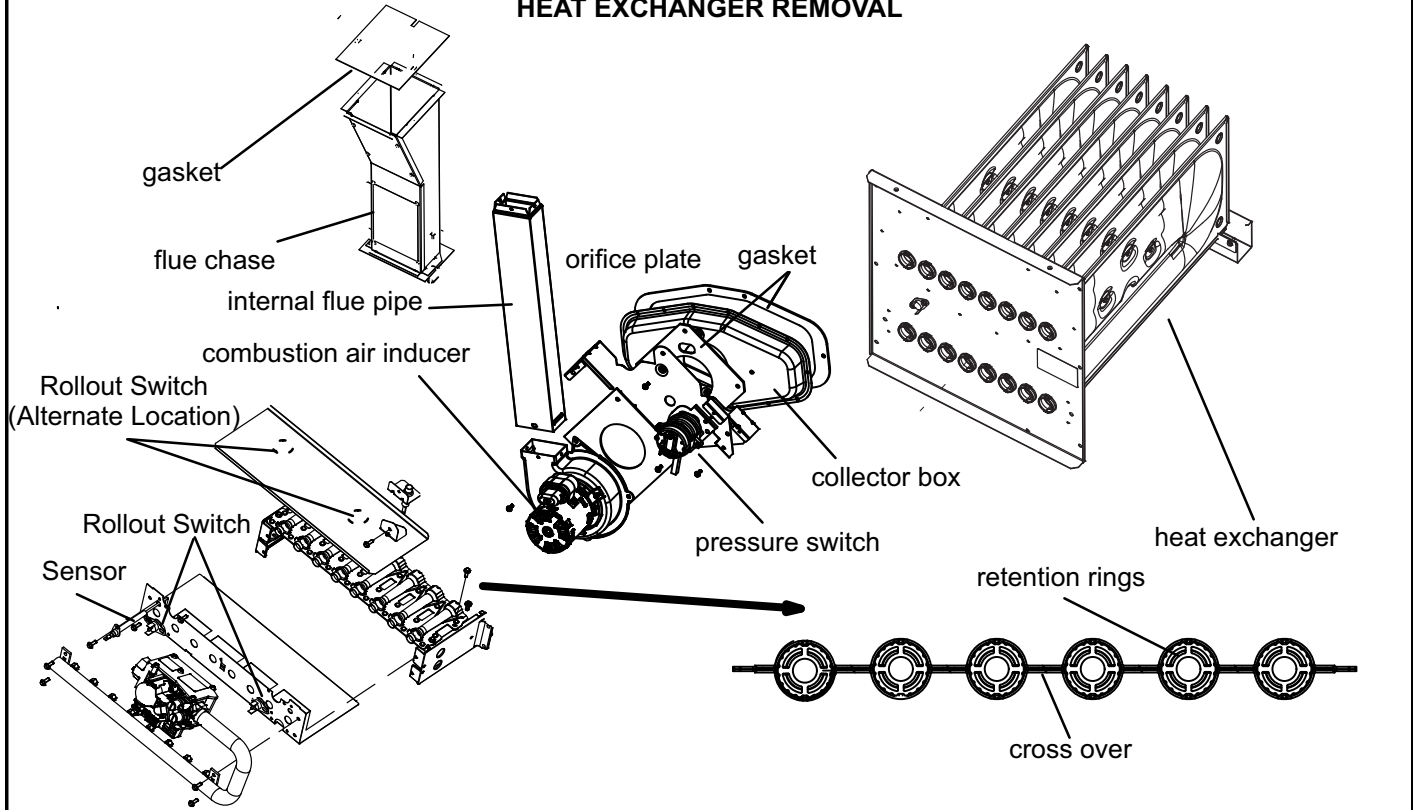

FIGURE 24
- 10- To clean burners, run a vacuum cleaner with a soft brush attachment over the face of burners. Visually inspect inside the burners and crossovers for any blockage caused by foreign matter. Remove any blockage. Figure 24 shows burner detail.